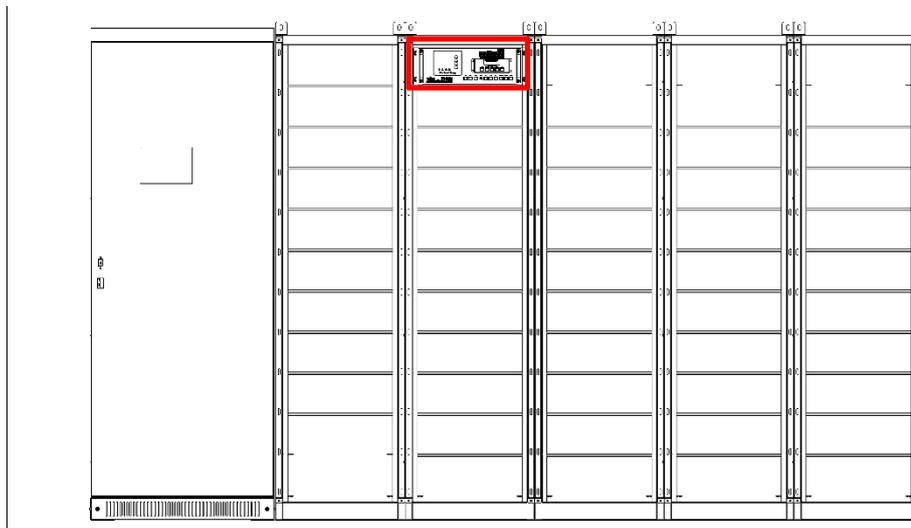

Figure 4.8 TOP BMU box installation
a. Put the TOP BMU box on the top of the second rack as Figure 4.8 shows.